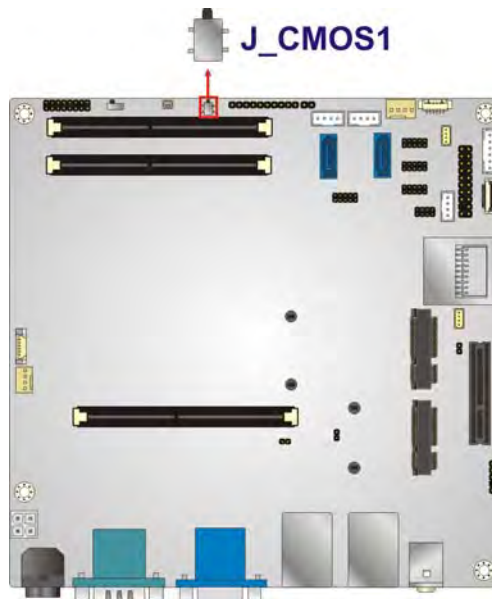

Figure 3-5: Clear CMOS Button Location
- CN Location: See **Figure 3-5**
The location of the clear CMOS button is shown in **Figure 3-5**.